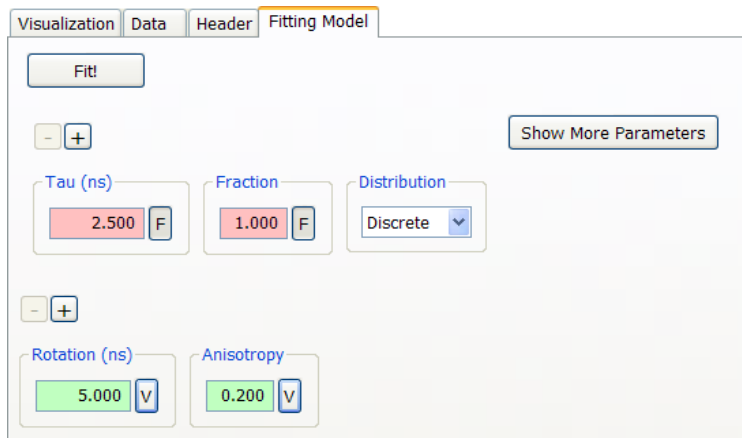

Figure 20.7 Fitting model page.
- It is a good approach to start with the simplest model, in this case a single rotator (unless it is known that the model is too simple). The table looks like the one displayed in Figure 20.7 above. The value of the lifetime is fixed (as it is determined by a separate experiment). The value of the rotational correlation time is variable (it needs to be determined); the default value (5 ns) is a seed value. The anisotropy value is variable; the default value (0.2) is a seed value.